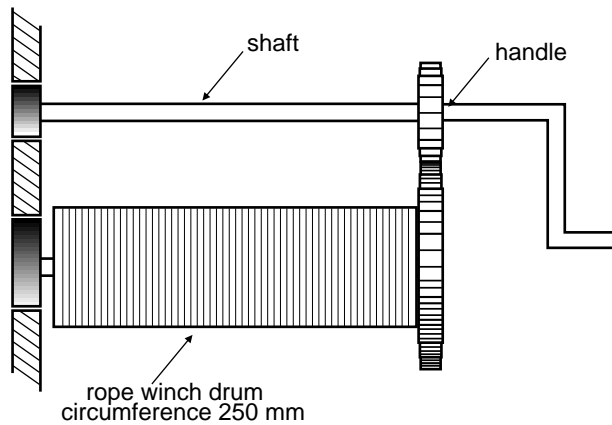

Figure 17
v. The winch rope drum (Figure 17) has a circumference of 250 millimetres. Calculate the number of revolutions the rope drum has to complete to raise the bucket 2.5 metres. Refer to formula on page 21 and show all working.